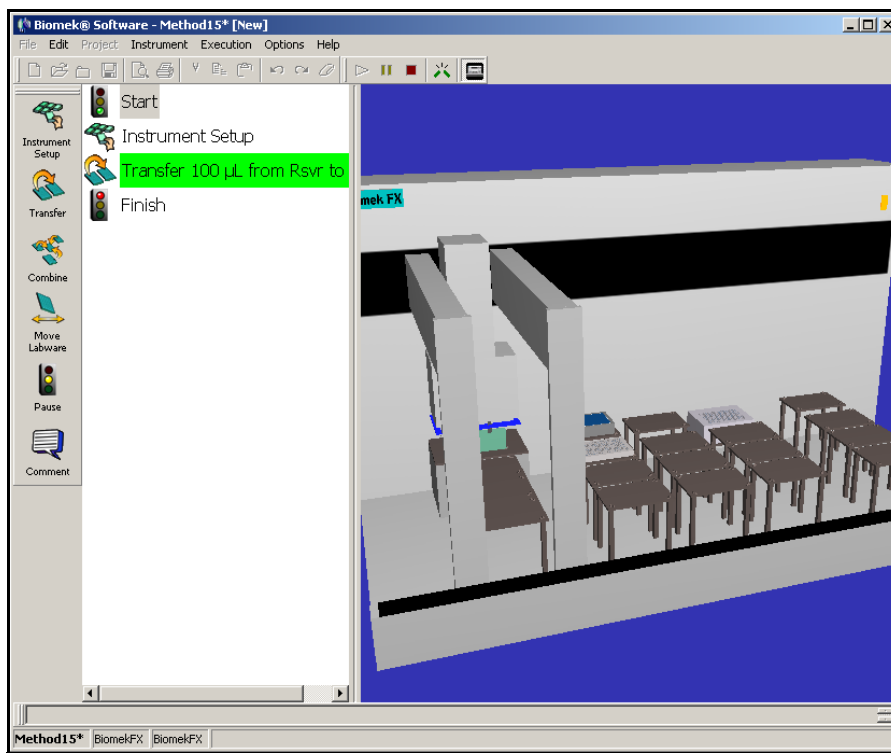

Figure 1-15. Running a method in simulation
When a method is run in simulation, the Biomek Simulator appears, showing an animated 3-D model of the instrument performing the method. Setting the simulation mode is configured in Hardware Setup (Figure 1-15).
3. Choose **Accept**. Now, when a method is run, an animated 3-D model of the Biomek instrument is displayed (Figure 1-15). You can now watch a simulation of the Biomek instrument perform the steps in the method.